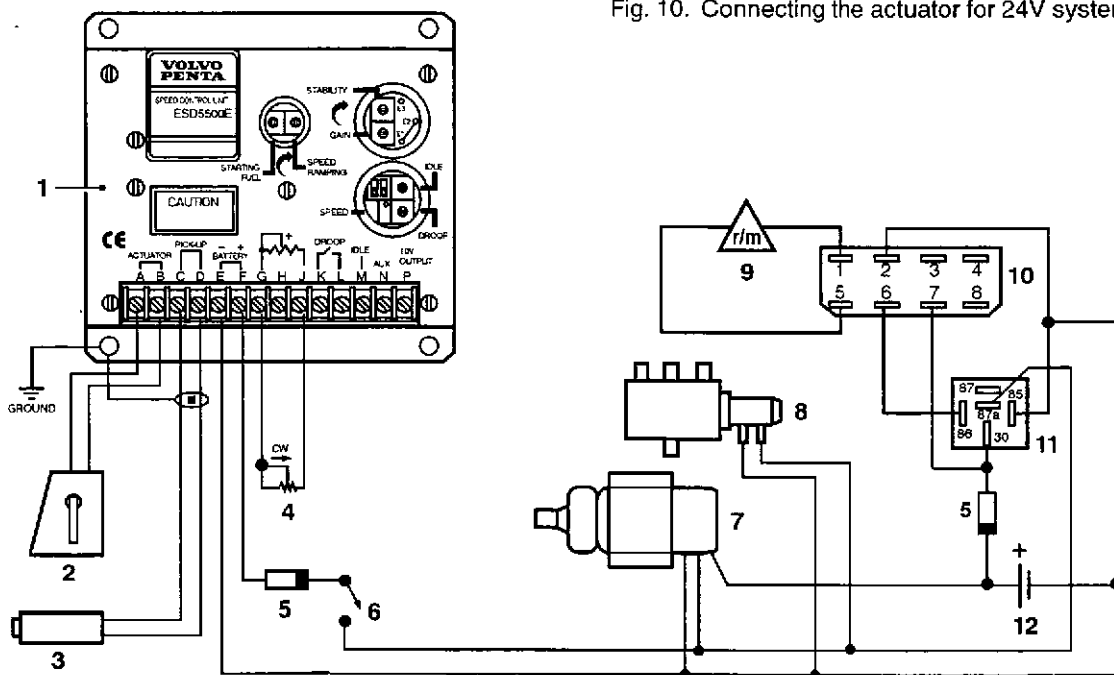
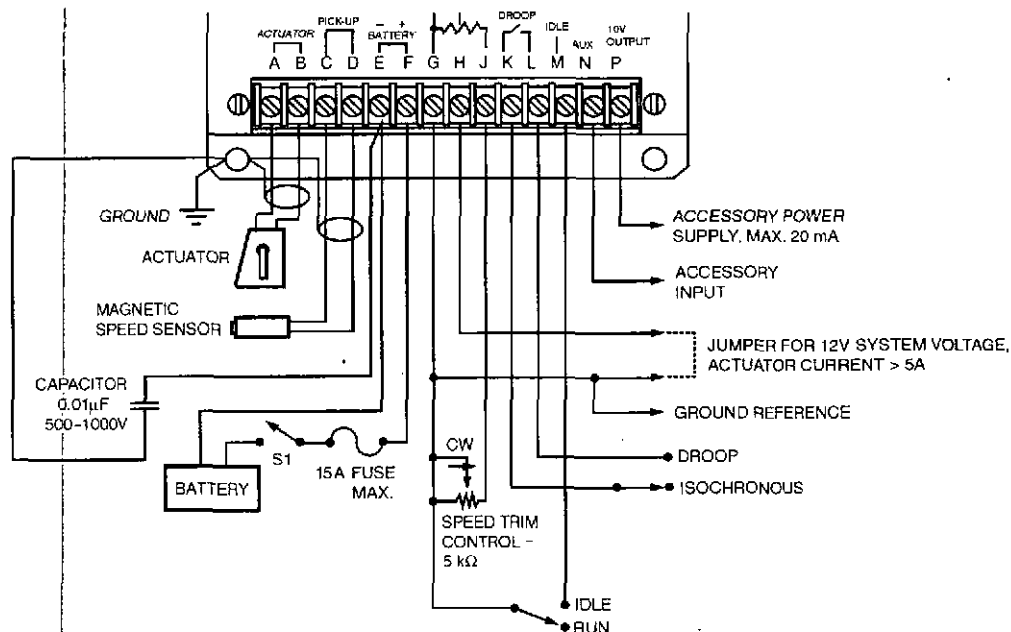

Fig. 8. Connecting the stop solenoid or fuel valve, live during operation, 24V system.
Fig. 11
The wiring is shown in the wiring diagram, fig 8.
2. The magnetic pickup must be connected to the control unit using shielded cable as shown in the wiring diagram, fig. 11.
Connect the pickup to the control unit according to the wiring diagram (fig 8).
Provided that a fast fuse is used in the battery cable as shown in the wiring diagrams fig. 8 and fig. 11, reversed polarity will not ruin the control unit. However, other incorrect connections can cause the control unit to be ruined.
3. That the wiring is otherwise correct. See wiring diagrams figs 8, 9, 10 and 11.